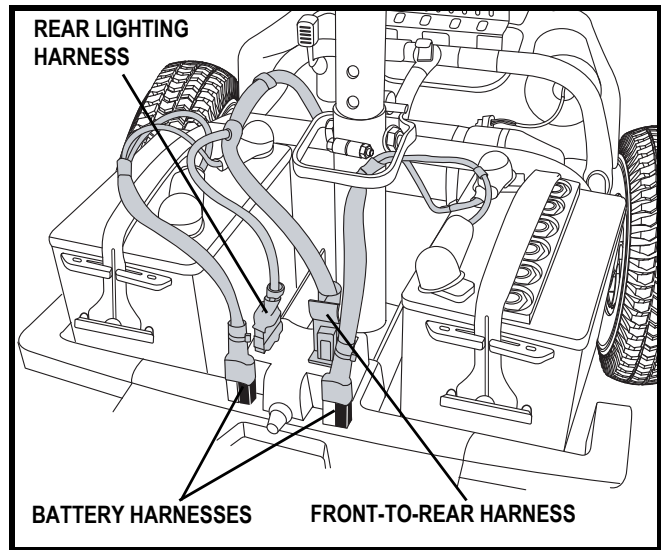

Figure 22. Harness Connections
5. Unplug the front-to-rear and rear lighting harnesses by squeezing the sides and pulling straight up. See figure 22.
6. Unplug both battery harnesses. Pull each harness straight up. See figure 22.
- Connect the front-to-rear harness, rear lighting harness, and both battery harnesses. See figure 22.